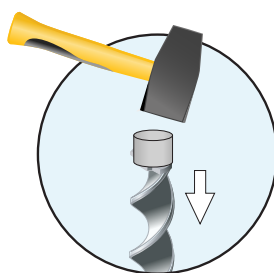

Fig 3.
4. Hammer the anchor into the ground, (Fig 3). When it is at ground level remove the cap.